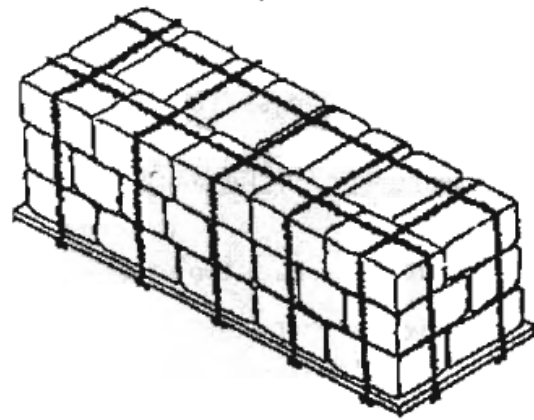

Figure 2
2. Loads more than one tier high, with horizontal bales laid lengthwise in the top tier, must have one crossbinder placed near the midpoint of each bale, see figure 2.